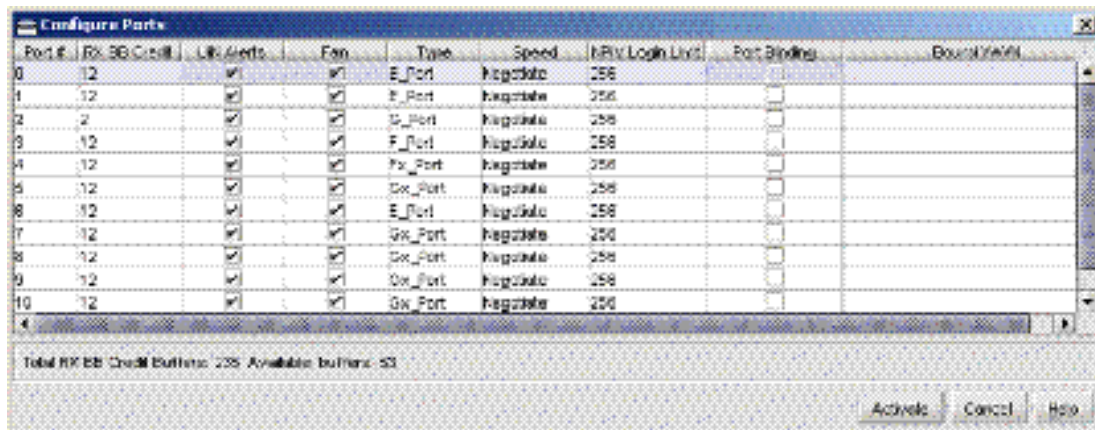

Figure 2-31 Configure Ports Dialog Box
1. Select *Ports* from the *Configure* menu (*Configure>Ports*). The *Configure Ports* dialog box appears (Figure 2-31).